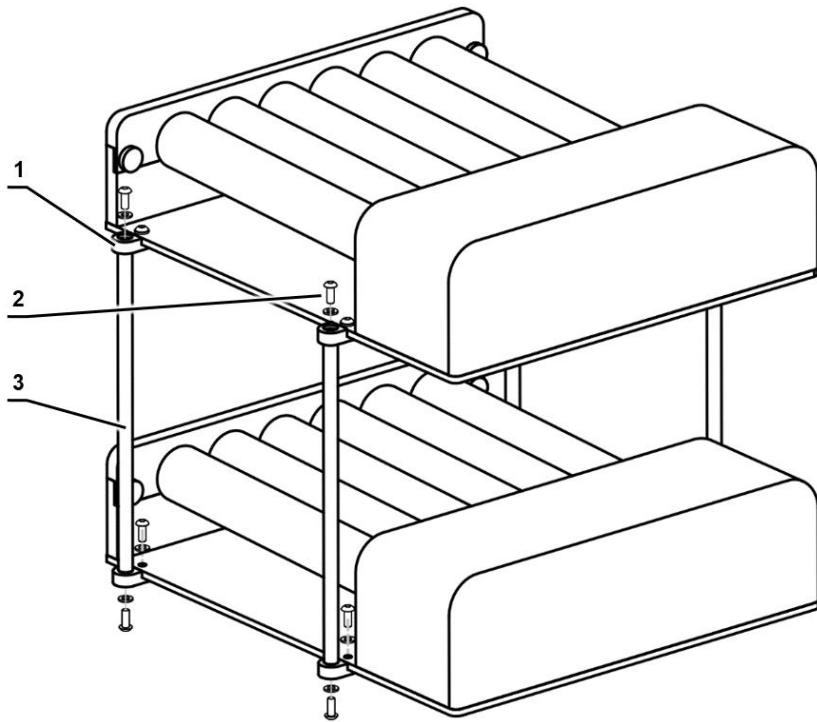

Figure 2. Stacking kit installation
4.4.4 Stacking two units (figure 2).
- Lock the bracket parts (fig. 2/1) with hex screws and washers (fig. 2/2) in 4 positions on the base plate of all stacking units.
- Insert the connecting rod (fig. 2/3) on the bottom bracket and secure it tightly with a hex screw and a washer. Repeat for other connecting rods.
- Lock the bracket parts (fig. 2/1) with hex screws and washers (fig. 2/2) in 6 positions on the base plate of all stacking units.